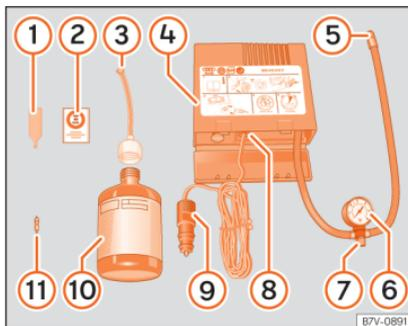

Fig. 71 Standard display: contents of the anti-puncture kit.
- Unscrew the tyre valve cap and insert. Use the »» Fig. 71 (1) tool to remove the insert. Place it on a clean surface.
- Shake the tyre sealant bottle vigorously »» Fig. 71 (10).
- Screw the inflator tube »» Fig. 71 (3) into the sealant bottle. The bottle's seal will break automatically.
- Remove the lid from the filling tube »» Fig. 71 (3) and screw the open end of the tube into the tyre valve.
- Place the insert back into the tyre valve using the tool »» Fig. 71 (1).
- Screw the compressor tyre inflator tube »» Fig. 71 (5) into the tyre valve.
- Check that the air bleed screw is closed »» Fig. 71 (7).
- Insert the connector »» Fig. 71 (9) into the vehicle's 12-volt socket »»  page 162.
- Turn the air compressor on with the ON/OFF switch »» Fig. 71 (8).